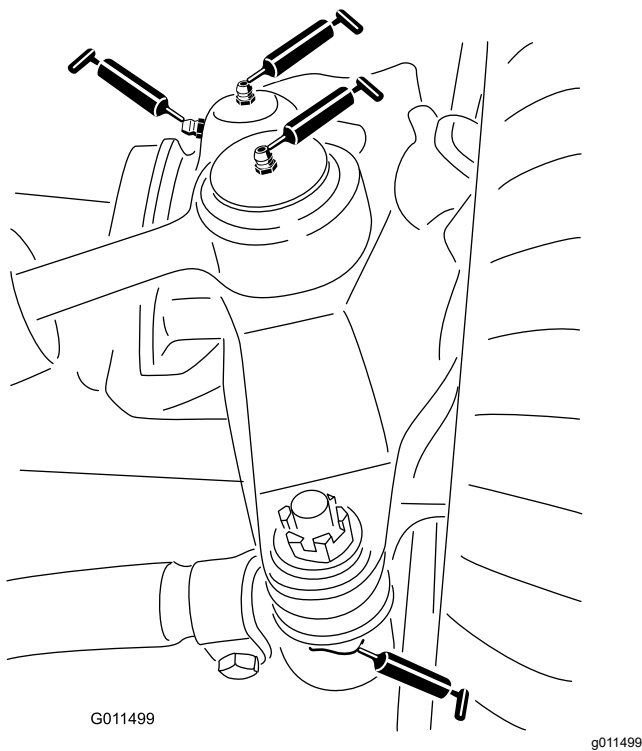

Figure 76
- 2 steering-cylinder-ball joints (Figure 76)
- 2 tie-rod-ball joints (Figure 76)
- 2 king-pin bushings (Figure 76).